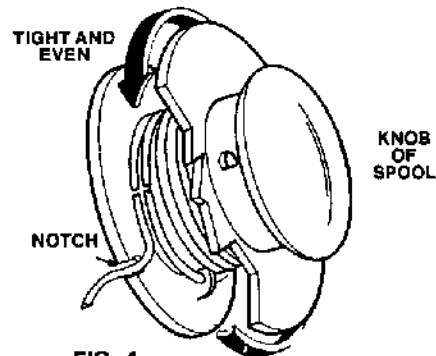

FIG. 4
2. Wind both ends of line at same time: Wind counterclockwise as shown (Fig. 4) in direction of arrow marked cc on edge of spool.